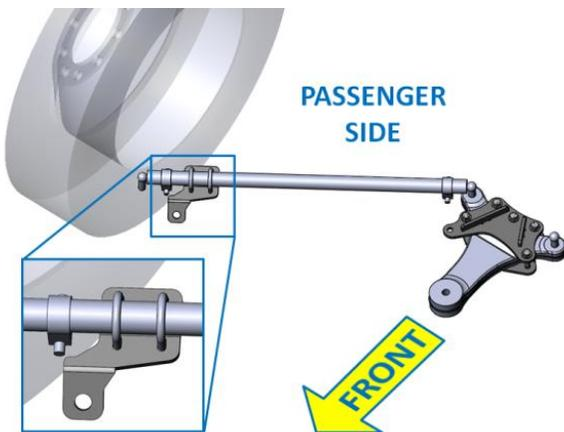

Figure 3
5. Loosely install USI-1014 on the end of the passenger tie rod using the 1-5/8" U-Bolt Kit (12-38-1525K). The bracket should be on the underside of the tie rod with the 3/4" bolt hole facing towards the front of the vehicle (Figure 3).
5. For the person outside of the vehicle, gain access to SAFE T PLUS® unit. Using a socket wrench with a 9/16-inch socket, and loosen **Flanged Lock Nuts** on Tie-Rod Bracket **U-Bolt** and allow the SAFE T PLUS® unit to freely move to its centered position. Once the SAFE T PLUS® unit rests at its centered position, using a torque wrench with a 9/16-inch socket, torque Tie-Rod Bracket **Flanged Lock Nuts** to **20 foot pounds** (*Figure 3*).
6. Repeat road test until vehicle is able to maintain a straight trajectory. If centering the SAFE T PLUS® unit requires more than 2 or 3 attempts, please contact our technical support team at (770) 322-8727 for further assistance.